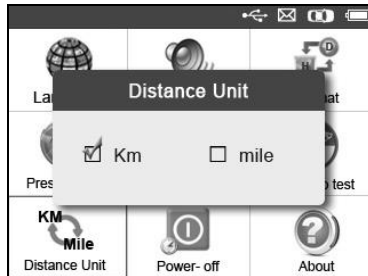

Figure 2.9
- 2) From **Distance Unit** screen, use the **LEFT/RIGHT** scroll button to select the desired unit of distance: **Km** or **mile**. (Figure 2.9)